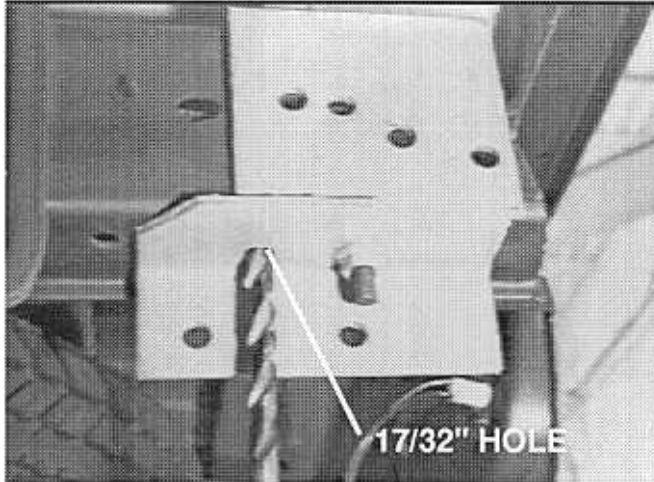

Figure 6
- Using existing hole in bottom of bracket as a template, drill one $17/32$ " hole per side. See Figure 6. (Bumper bracket not shown.)